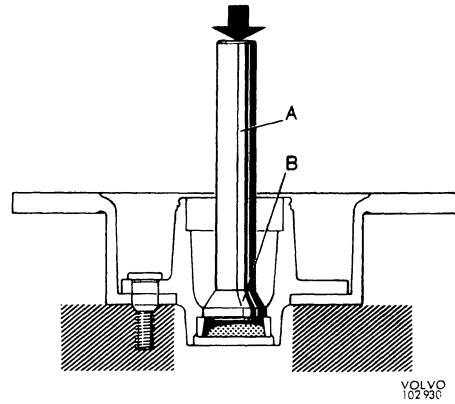

Fig. 7-19. Removing outer ring, outer bearing
4. Remove the bearing rings from the hub. For the outer bearing ring use SVO 1800 and standard handle SVO 1801 (Fig. 7-19). The inner bearing ring is knocked out with a suitable drift.